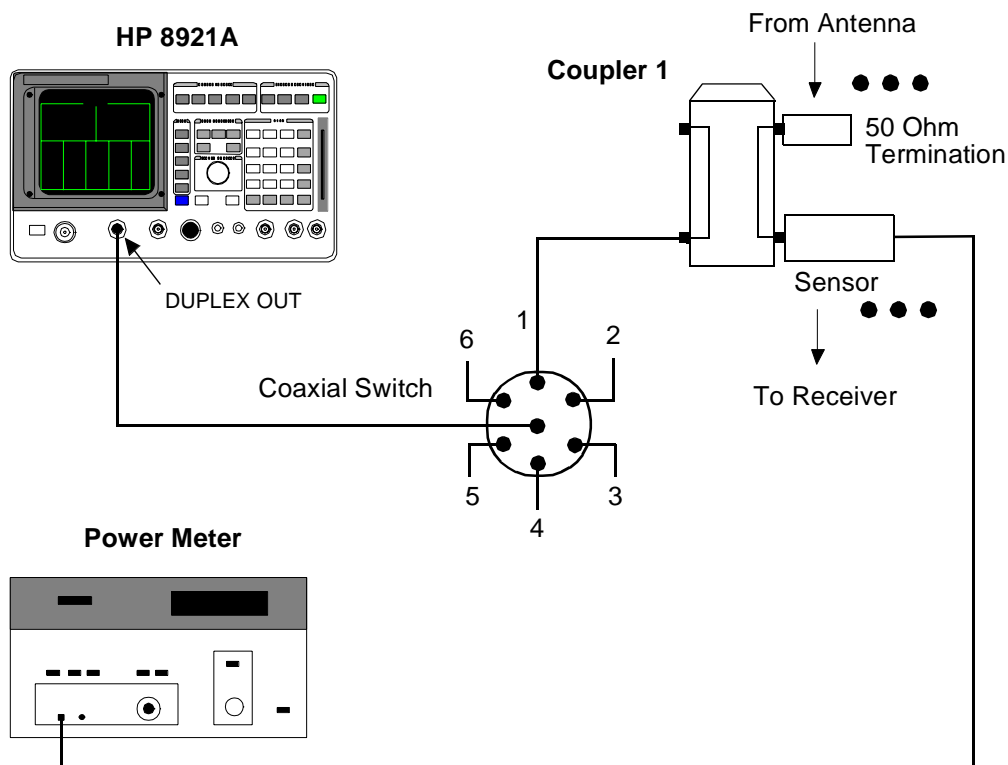

Figure 9 Receiver Path Loss - POWERRECEIVERS Measurement
4. See **figure 9**. Connect the Test Set DUPLEX OUT to the common port of the RX antenna switch. Terminate the RF coupler port leading to the antenna. Connect the power meter sensor to the RF coupler port that normally attaches to the receiver input.